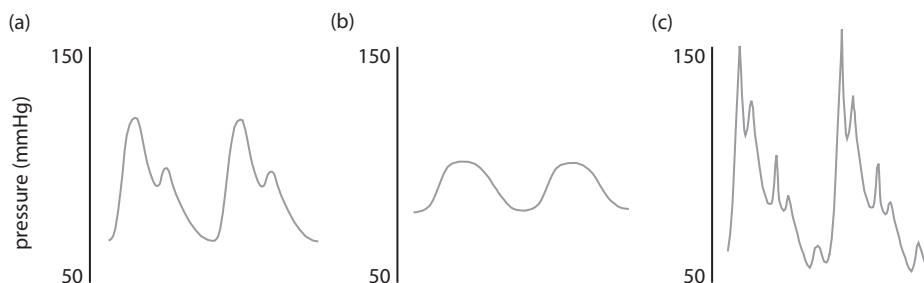

Figure 6.17. (a) Normal, (b) over-damped and (c) under-damped arterial pressure waveforms.
- If there is too little damping (the under-damped case), oscillation of the sensor diaphragm appears as high-frequency waves superimposed on the pressure signal. This can cause overestimation of systolic pressure (and overestimation of the diastolic pressure) as shown in *Figure 6.17*. The effect on the mean measured blood pressure is not as great.